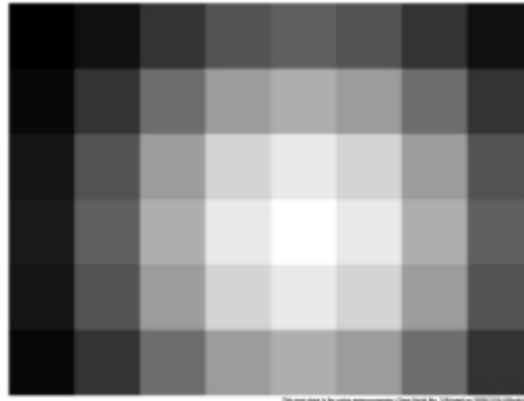

Figure 4-6-1-1
2. A grayscale gradient card must be used, as shown in Figure 4-6-1-1.
7. Low-light image requirements: the pixel value of the brightest block in Figure 4-6-1-1 reaches 30 (to ensure that the boundary of each color block can be seen clearly, if it is not satisfied, it can be appropriately increased), and the pixel value of the darkest block reaches Black-Level (It can be satisfied when the pixel value of the brightest block just reaches 30).
8. Highlight image requirements: the pixel value of the brightest block in Figure 4-6-1-1 reaches 255, and the pixel value of the darkest block is generally around 60-70.